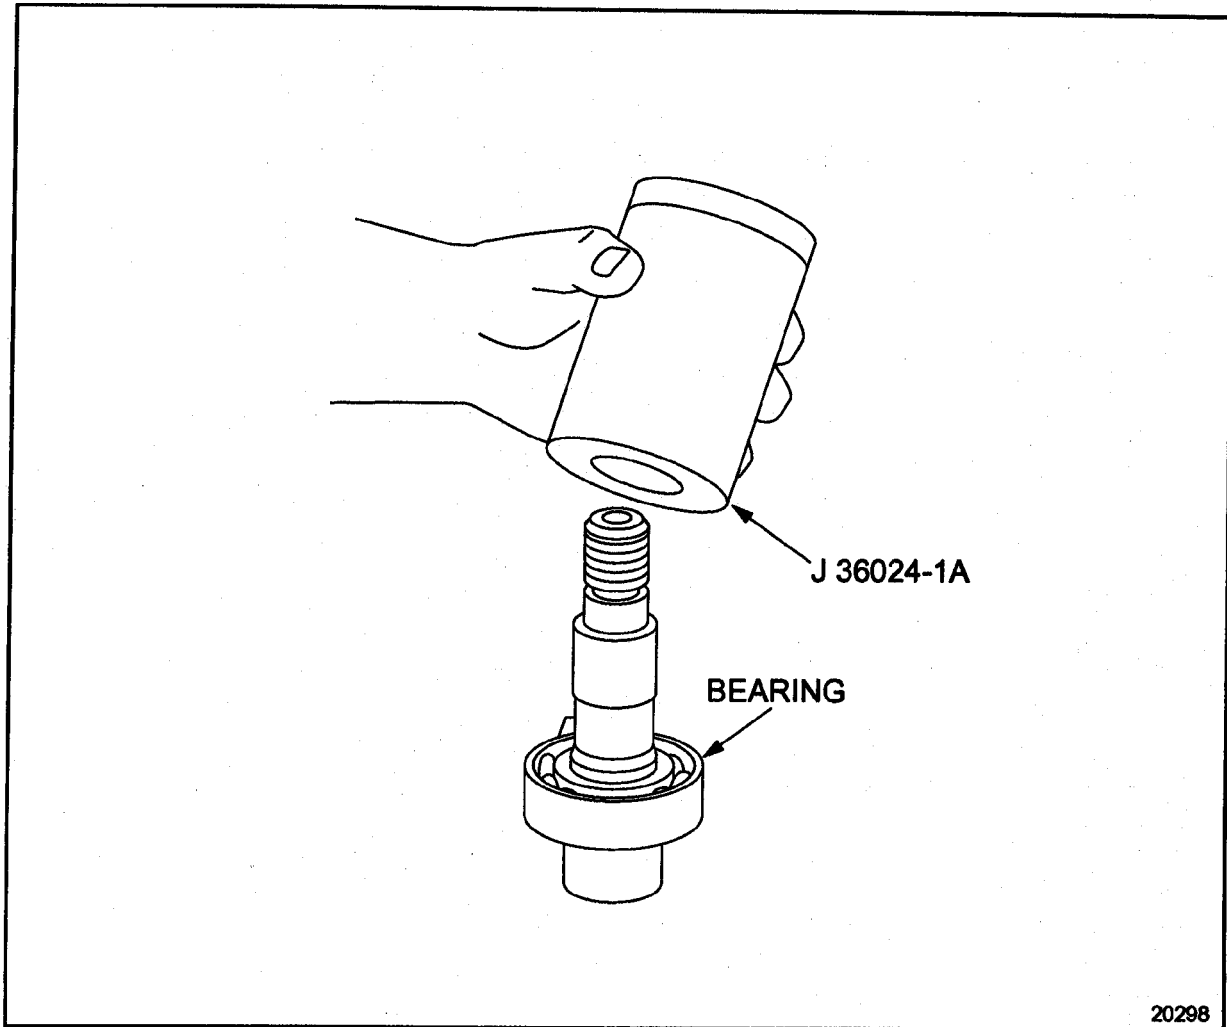

Figure 1-412 Bearing Installation
1. Place a new ball bearing on the accessory drive shaft. Use tool J 36024-1A and a press to install the bearing onto the shaft until it bottoms out against the shoulder of the drive shaft. See Figure 1-412.